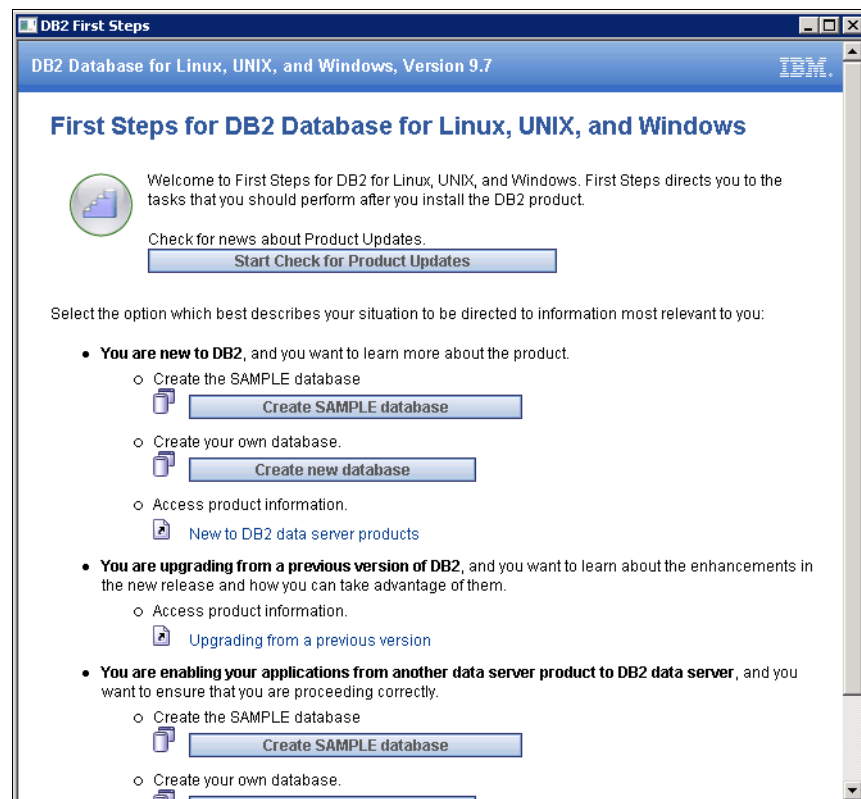

Figure 12-19 DB2 first steps
17. Close the DB2 Setup Launchpad (Figure 12-19) to complete the installation.